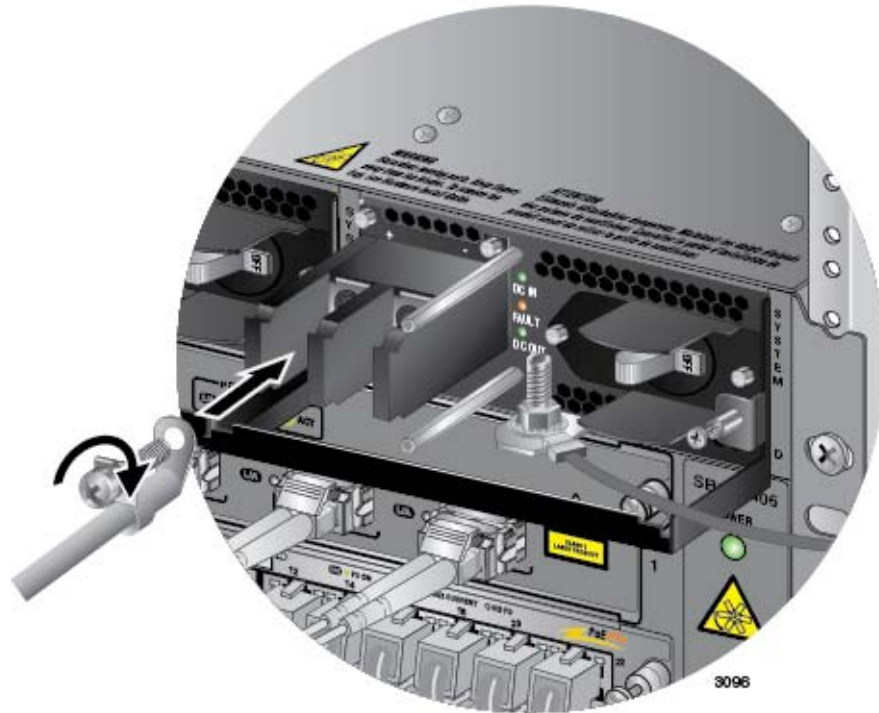

Figure 135. Connecting the Positive (+) Power Wire with a Right Angle Terminal
6. With a #3 Phillips-head screwdriver, connect the positive (+) power lead wire to the positive terminal on the power supply, with one of the terminal screws removed in the previous step. The positive terminal is on the left. Refer to Figure 135 on page 192.